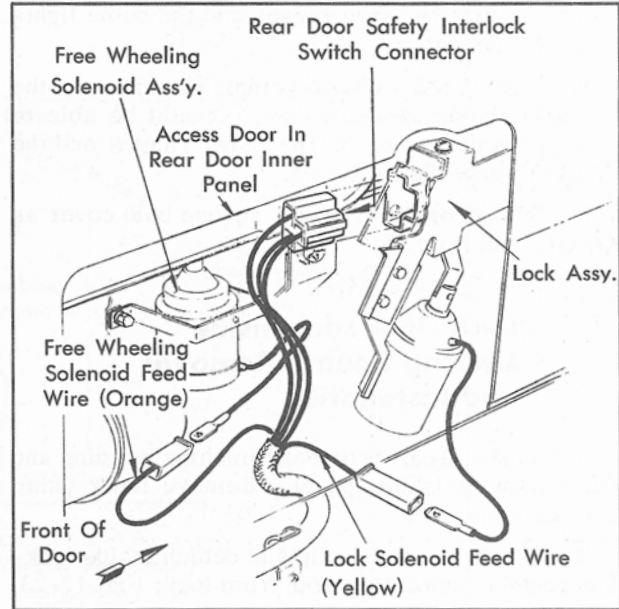

Fig. 17-26 Rear Door Lock Assembly
2. Disconnect safety interlock switch connector from lock and disconnect lock solenoid feed wire at connector, Fig. 17-26.